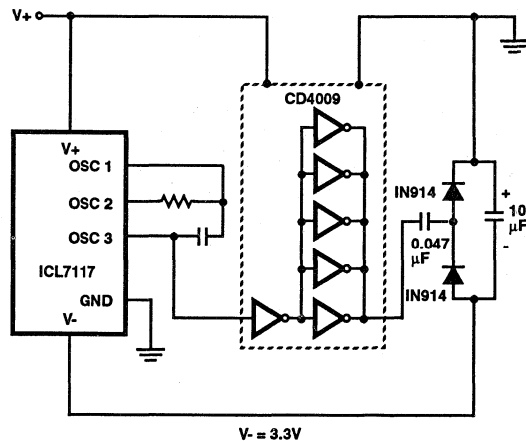

FIGURE 10. GENERATING NEGATIVE SUPPLY FROM +5V
3. The ICL7117 is designed to work from \pm 5V supplies. However, if a negative supply is not available, it can be generated from the clock output with 2 diodes, 2 capacitors, and an inexpensive I.C. Figure 10 shows this application. See ICL7660 data sheet for an alternative.